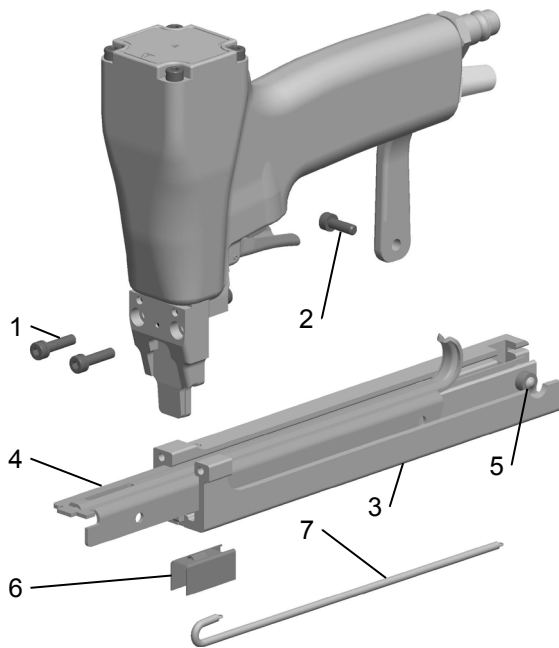

Fig. 6
- Remove the rear screw (Fig. 6/2).